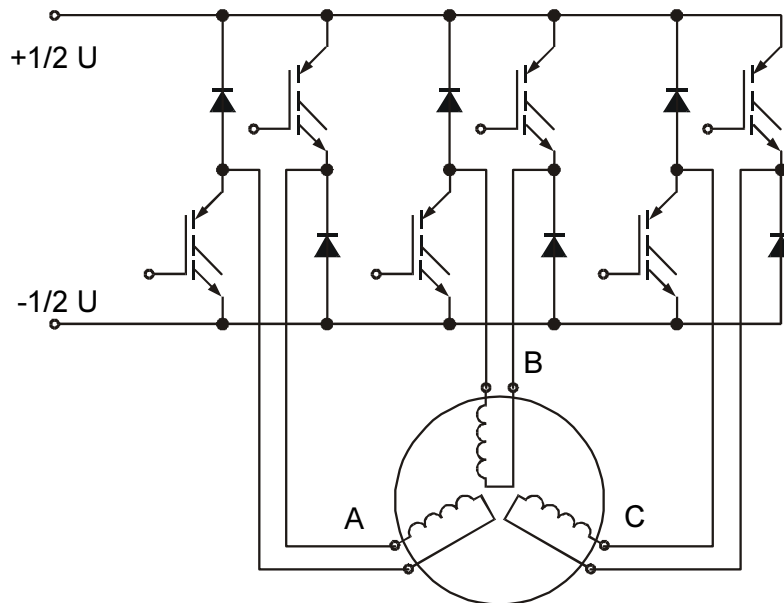

Figure 5-10. SRM 3-ph Power Stage
The widest freedom of control gives the power stage with two independent power switches per phase. It enables to control the individual phases fully independently on each other. **Figure 5-10** illustrates a 3-phase SRM topology. Other possible topologies share some of the power devices for more phases, saving the power stage cost but decreasing control freedom. The unique topology of the SR power stage, that differs from the AC ones, makes it fault tolerant because it eliminates the possibility of rail-to-rail short circuit, thus eliminating the need for the deadtime insertion logic.
- The **individual phase PWM operation** - is based on the power stage topology shown in Figure 5-10 allowing the highest flexibility of the SRM phases control. The control of motor phases can overlap since the phase PWM turn ON times, the phase PWM turn OFF times and the PWM duty cycles are individually controlled.